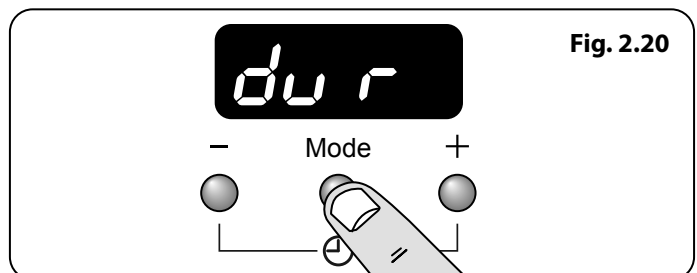

Fig. 2.20
1. Press the mode [Mode] button, until the display flashes 'dur' (Fig. 2.20).